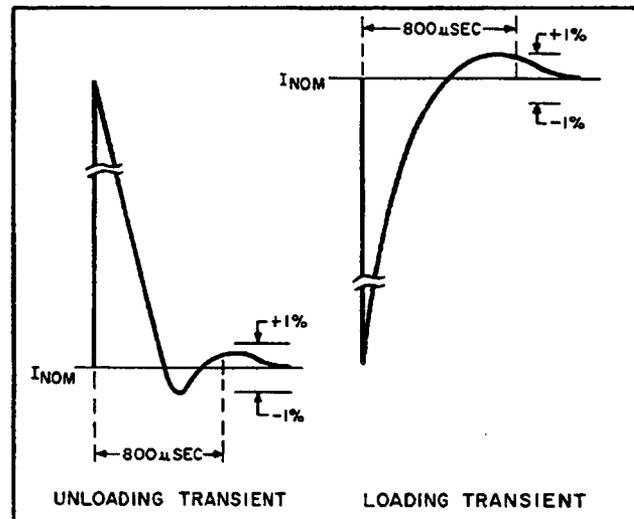

Figure 5-6. Load Transient Recovery Time, Waveforms
f. Adjust 25K potentiometer until a stable display is obtained on oscilloscope. Waveform should be within the tolerances shown in Figure 5-6. Output should return to within  $\pm 10\text{mV}$  (Model 6177C) or  $\pm 25\text{mV}$  (Model 6181C) of nominal value in less than 800 microseconds.